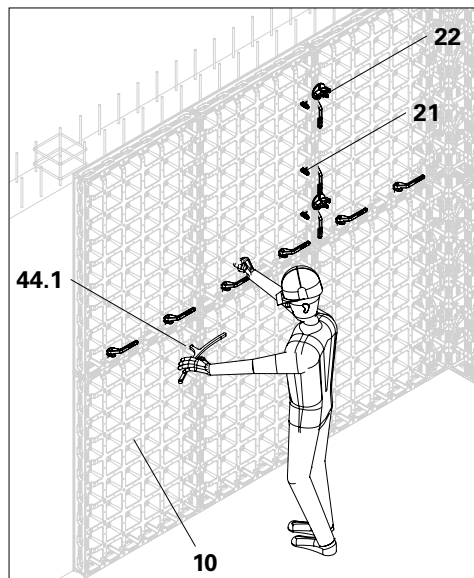

Fig. A4.09
3. Pull away from the wall using the hand grip of the stripping lever (**44.3**) in order to release the DP panels from the wall. (Fig. A4.09 – A4.09b)